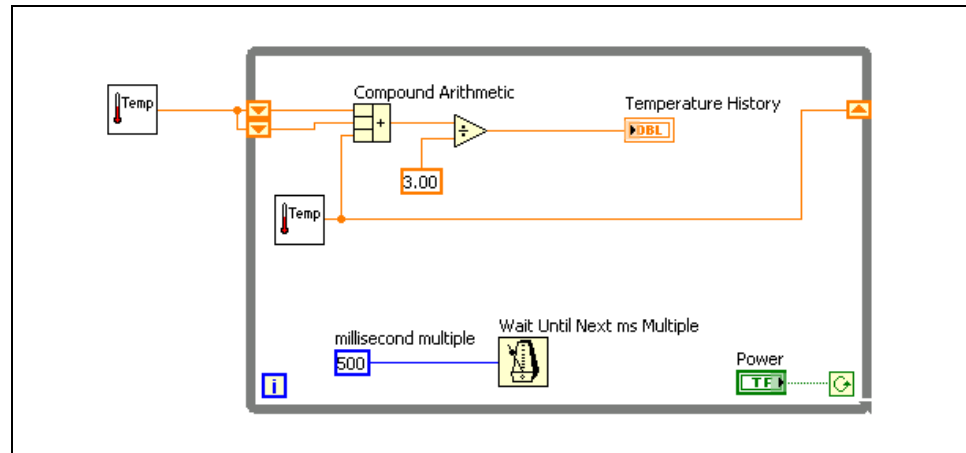

Figure 3-26. Average Temperature VI Block Diagram
4. Modify the block diagram as shown in Figure 3-26.
- Wire the functions together as shown in Figure 3-26.